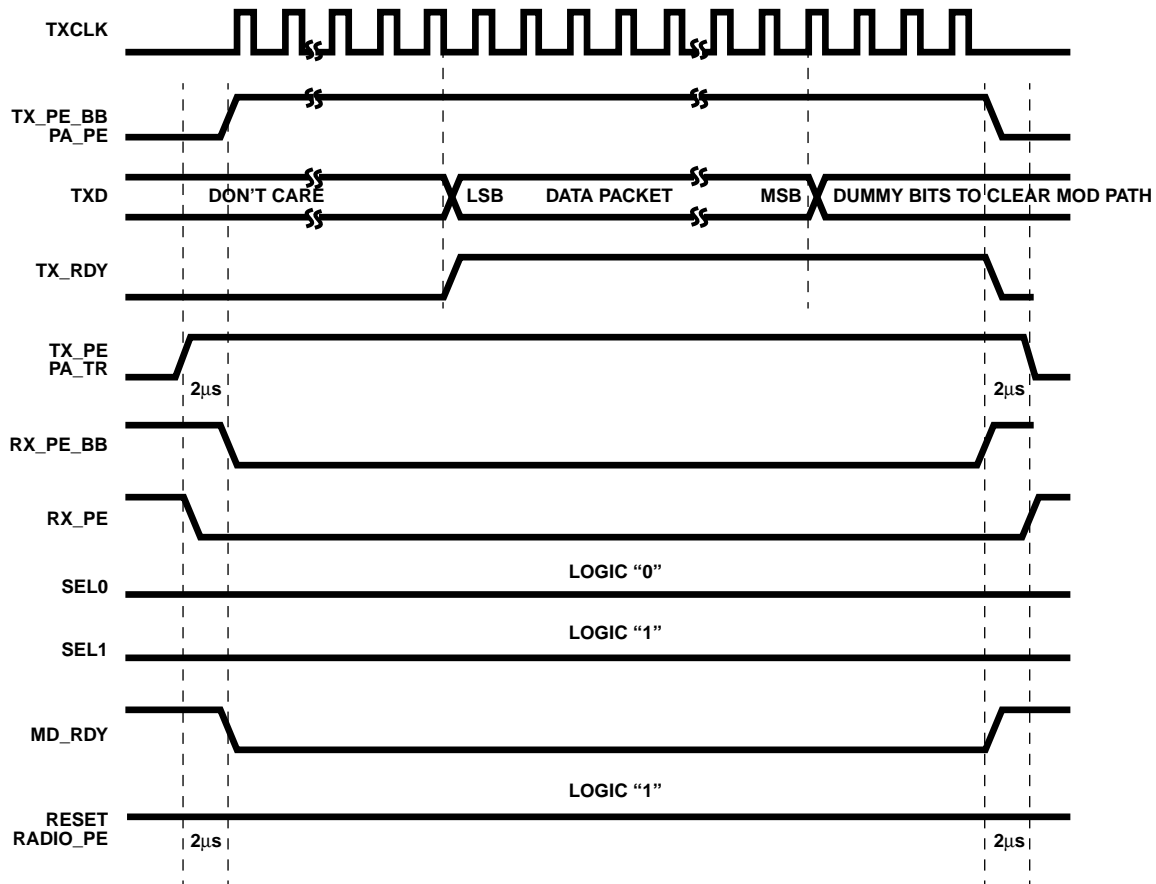

FIGURE 4. TRANSMIT TIMING DIAGRAM
To initiate the transmit operation the MAC generates TX\_PE. The Preamble and Header are then generated by the PHY. Finally, when cued, the MAC delivers the data packet to the PHY for transmission. The transmit data digital interface transfers the data that needs to be transmitted serially to the PHY. The data is modulated and transmitted as soon as it is received from the MAC. The serial digital data is input to the PHY through TXD using the falling edge of TXCLK to clock it in the PHY. TXCLK is an output from the PHY. A timing diagram of the transmit signal sequence is shown on Figure 4.
The MAC initiates the transmit sequence by asserting TX\_PE. Then TX\_PE\_BB envelopes the transmit data packet on TXD. The PHY responds by generating TXCLK to input the serial data on TXD. TXCLK will run until TX\_PE\_BB goes back to its inactive state indicating the end of the data packet. In addition Figure 4 illustrates the state of the PHY receive signals while transmitting as well as, the power enable, reset, and filter select proper signal states.
During this mode the PHY will immediately start transmitting the preamble and header as internally generated. Data available on TXD upon assertion of TX\_PE\_BB would be ignored. When the internally generated preamble and header are finished the PHY asserts TX\_RDY. This signals the MAC to begin sending the data packet. TX\_RDY assertion timing is programmable via Configuration Register (CR) 1. The timing diagram of this TX scenario, where the preamble and header are generated internal to the PHY, is illustrated on Figure 4.
One other signal that can be used to assist MAC transmit decisions as part of the TX interface is the Clear Channel Assessment (CCA) signal which is an output from the PHY. The CCA provides the indication that the channel is clear of energy and the transmission will not be subject to collisions. CCA can be monitored by the MAC to assist in deciding when to initiate transmissions. The CCA indication can be bypassed or ignored by the MAC without impacting any of the physical layer operations. The state of the CCA does not effect the transmit operation of the PHY. TX\_PE and TX\_PE\_BB will always initiate the transmit state independent of the state of CCA. The CCA timing is not shown in the timing diagram of Figure 4 since it is an optional signal and does not influence the PHY transmit operations.